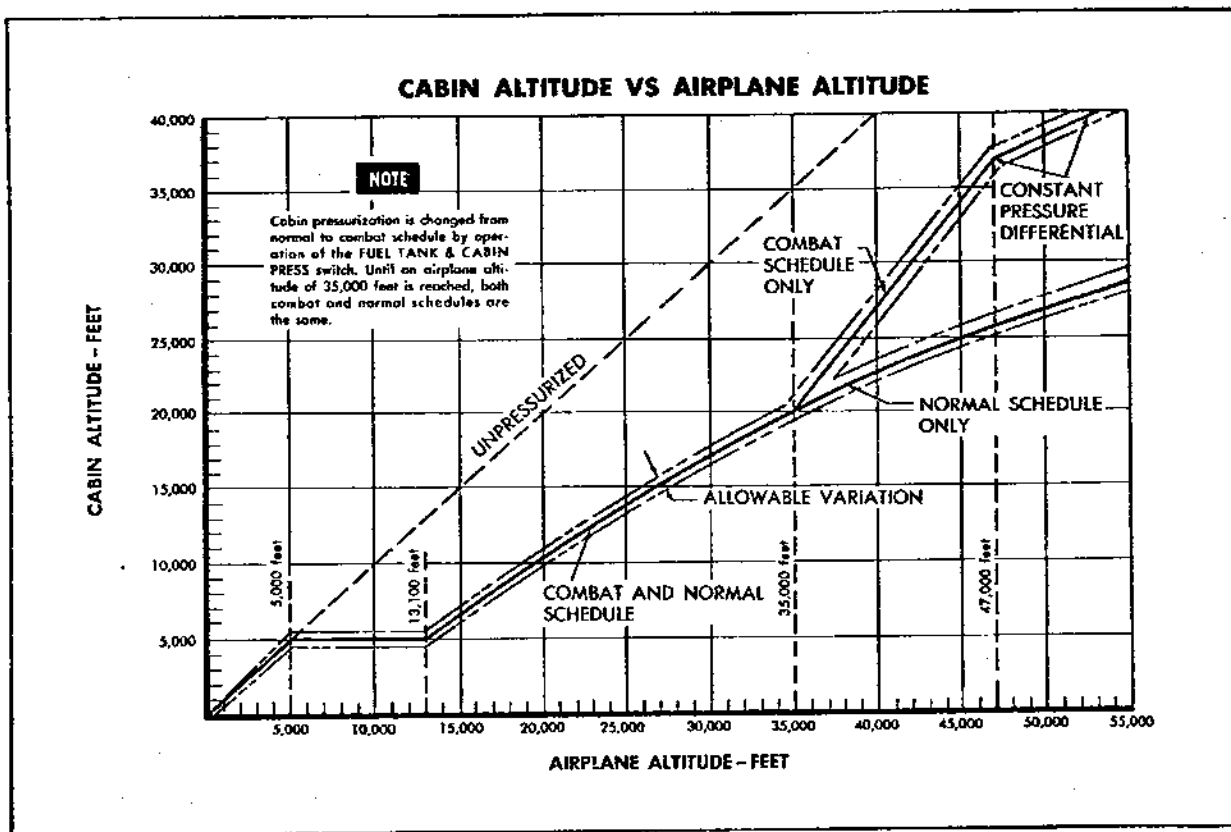

Figure 4-2. Pressurization Schedule
- Controls the cabin pressure by varying the area of an air exhaust port to produce the normal and combat pressurization schedules shown in figure 4-2.
**FUEL TANK AND CABIN PRESSURIZATION SWITCH.** The FUEL TANK AND CABIN PRESS switch (figure 4-1) is located on the left-hand console. During routine flight conditions, it is placed in "NORMAL" and cabin pressurization follows the normal schedule shown in figure 4-2. Placing the switch in
"COMBAT" switches cabin pressurization over to the combat schedule shown in figure 4-2 and dumps the fuel cell vent system pressure.